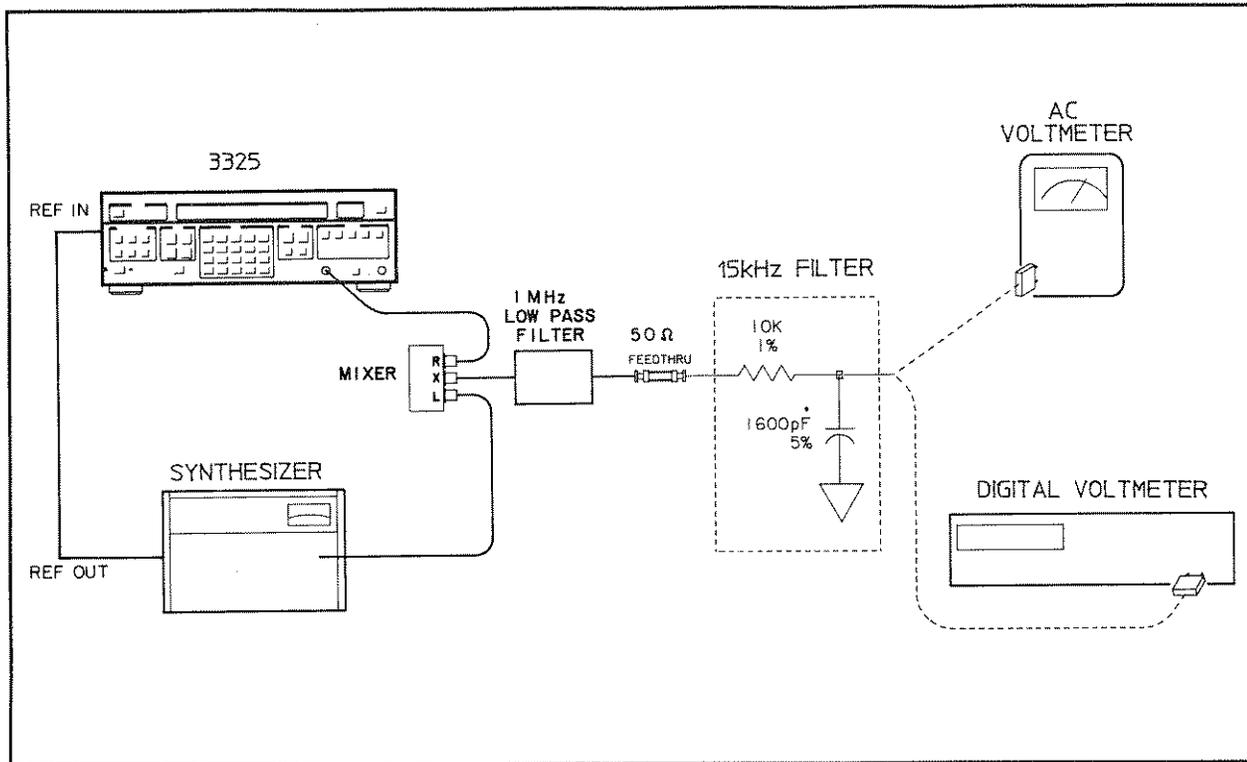

Figure 4-8. Integrated Phase Noise.
Capacitor: 1600 pF \pm 5% (see figure 4-8)
- a. Connect the equipment as shown in figure 4-8, connecting the 15 kHz noise equivalent filter output to the ac voltmeter. Phase lock the HP 3325B and the signal generator together.